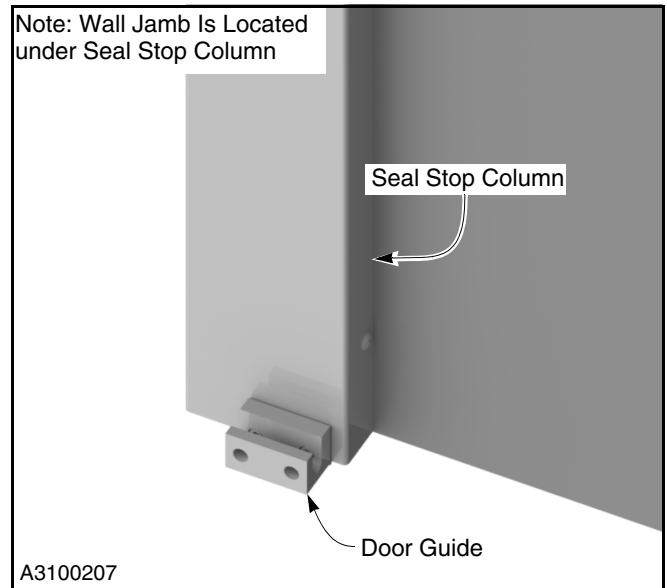

Figure 13
3. Loosen hardware and remove the door guide and the seal stop column. (See Figure 13.)